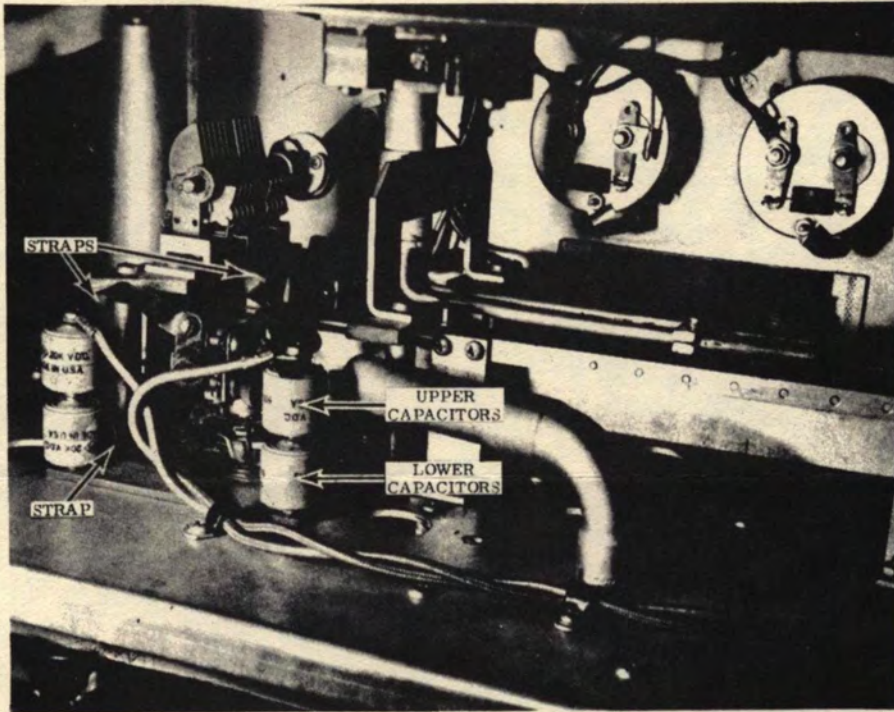

Figure 2. Insulating Strip (Cut 1/2 inch)
9. Mount four double stacks of CENTRALAB TV-20 door-knob capacitors adjacent to four outside corners of screen connectors. Each lower capacitor is connected by a strap to the screen connector, while upper capacitors are connected by a strap to their respective filament terminals. (See Figure 2.)